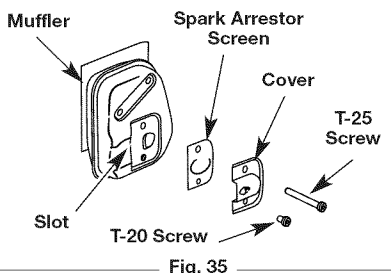

Fig. 35
- With a flat blade screwdriver or Torx T-20 bit and a T-25 bit, remove the screws attaching the spark arrestor cover to the muffler (Fig. 35).